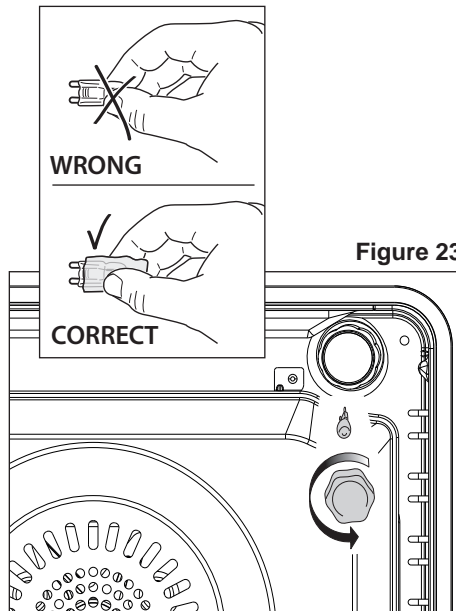

Figure 23
- Remove the protective cover (fig. 23).